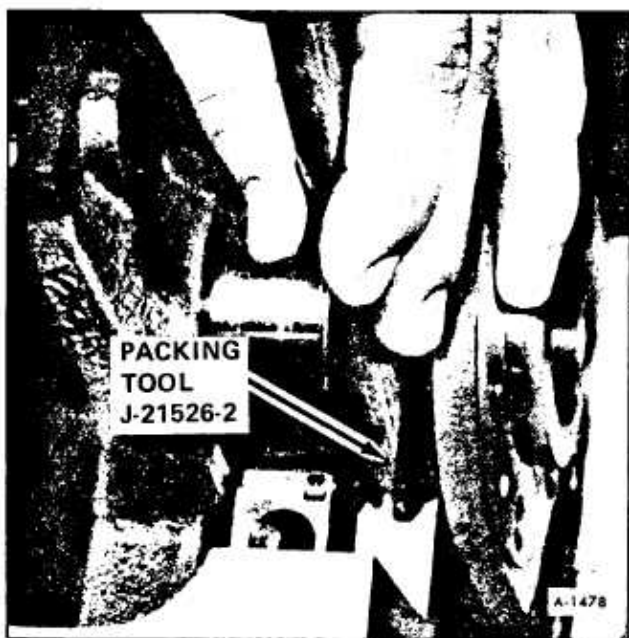

Figure 67-Packing Seal Into Cylinder Block
2. Insert Packing Tool J-21526-2 against one end of seal in cylinder block and drive the old seal gently into the groove until it is packed tight. This varies from 1/4" to 3/4" depending on the amount of pack required. See Figure 67.